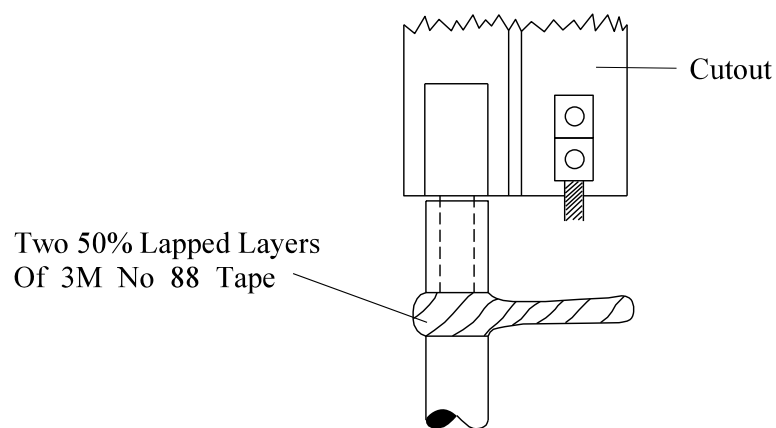

Fig 3
- 8.10. Remove the CNE wires from the cut-out and tape up using two layers with a 50% overlap of 3M No 88 tape - Fig 3.